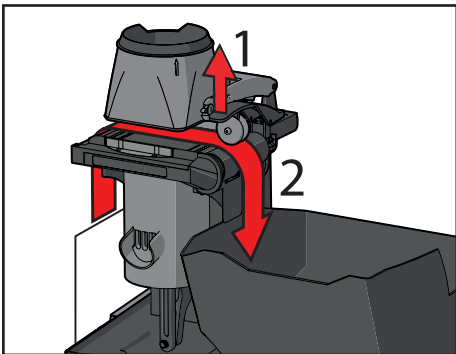

Figure 77. Feed the paper trough the brewer
11. Feed the paper between the brewer and mixing bowl. Hold the roller arm up and clamp the filter paper under the rolls. Feed the paper into the waste bin (see Figure 77).